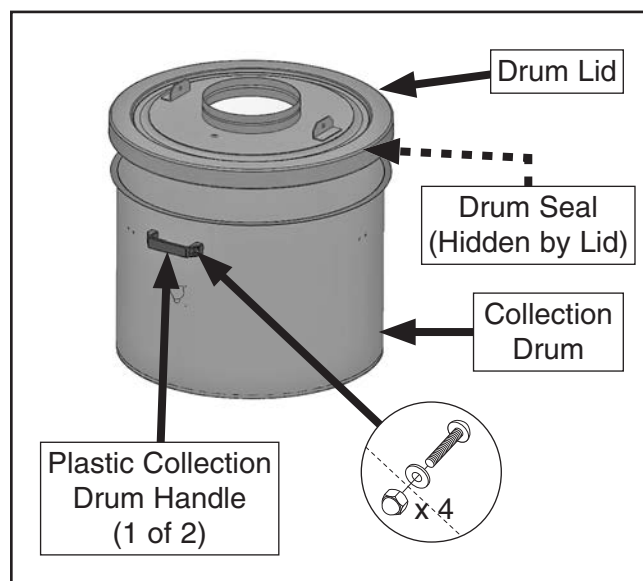

Figure 21. Drum lid and handles installed on collection drum.
18. Attach (2) plastic collection drum handles to collection drum using (4) $\frac{5}{16}$ "-18 x $\frac{3}{4}$ " Phillips head screws, $\frac{5}{16}$ " fender washers, and $\frac{5}{16}$ "-18 acorn nuts (see **Figure 21**).
20. Place collection drum lid seal and lid on top of collection drum (see **Figure 21**).